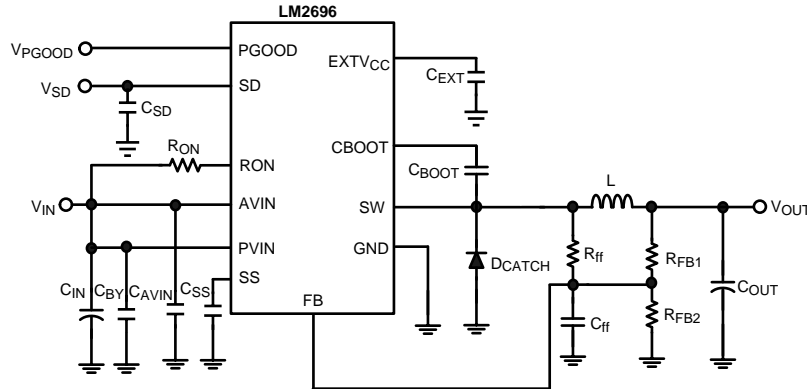

Figure 28. 12V-to-3.3V Voltage Applications Circuit
(1) (Figure 28: Medium Voltage Board, 12V-to-3.3V conversion, $f_{sw} = 300$ kHz)